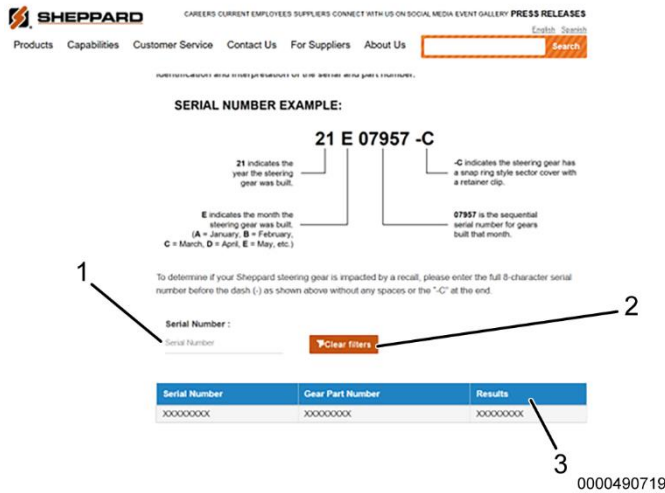

Figure 2. Steering Gear Classification Tool
7. Referring to Figure 2 for suspected steering gear, type the serial number of the suspected steering gear in the serial number field (Figure 2, Item 1):
- a. If the result (Figure 2, Item 3) is **Good** or **Serial Number Entered Is Outside The Date Range**, replacement is not required. Proceed to Step 24.
- b. If the result (Figure 2, Item 3) is **Not Found**, follow instructions on R.H. Sheppard website.
- c. If the result (Figure 2, Item 3) is **Suspect**, the steering gear will require replacement. Proceed to Step 8.
- d. If a different serial number needs to be checked, click **Clear Filters** (Figure 2, Item 2) and submit the new number.